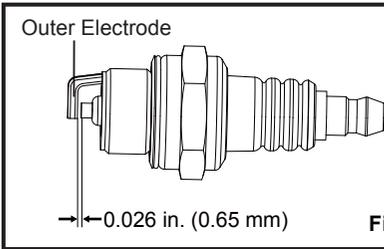

Fig. 41
- Adjust spark plug gap by bending outer electrode (Fig. 41).